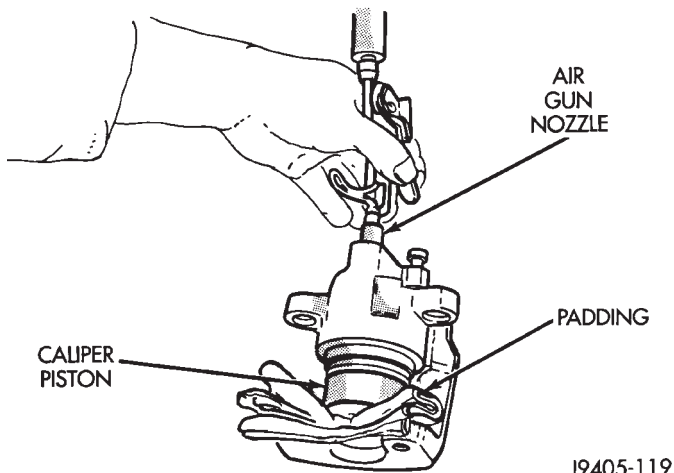

Fig. 77 Caliper Piston Removal
- (4) Remove caliper piston with **short bursts** of low pressure compressed air. Direct air through fluid inlet port and ease piston out of bore (Fig. 77).